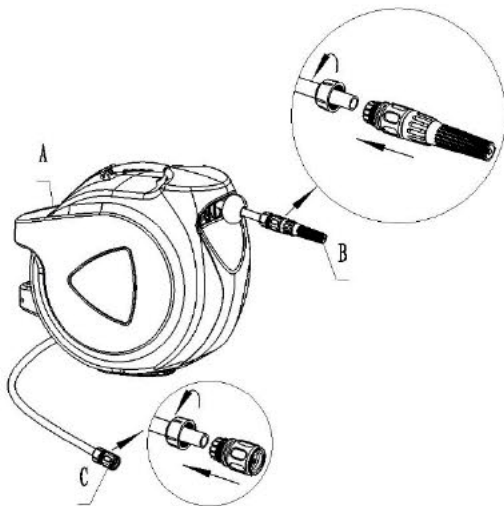

Fig. 2
1. Assemble the quick connector and spray nozzle. (Fig. 2)